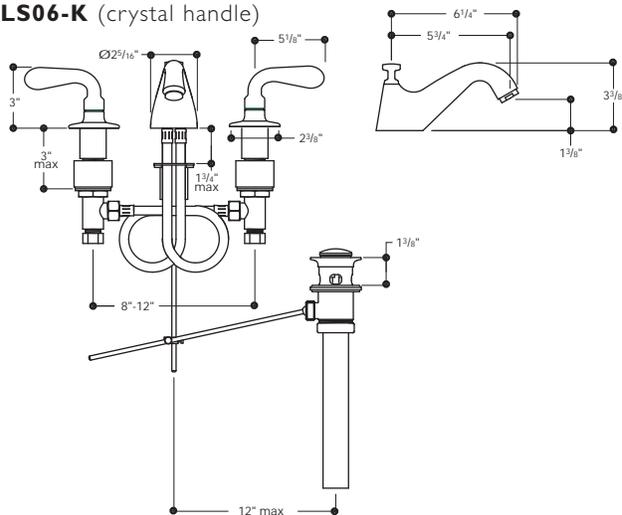

Figure 1
- To remove the handle trim from the handle trim connector, unscrew the escutcheon and pull off the handle and escutcheon together. Then, unscrew and lift off handle trim connector. Leave locking nut, gaskets, and plastic spacer in place on the valve body (see fig. 1).
- Insert the valve body through the mounting hole, using the plastic spacer (used for deck surfaces less than 1 1/4" thick) if needed. Then, screw the handle trim connector onto the valve body until fully seated. Next, tighten the bottom locking nut to secure the valve to the deck. Repeat for the other valve assembly. (see fig. 1)